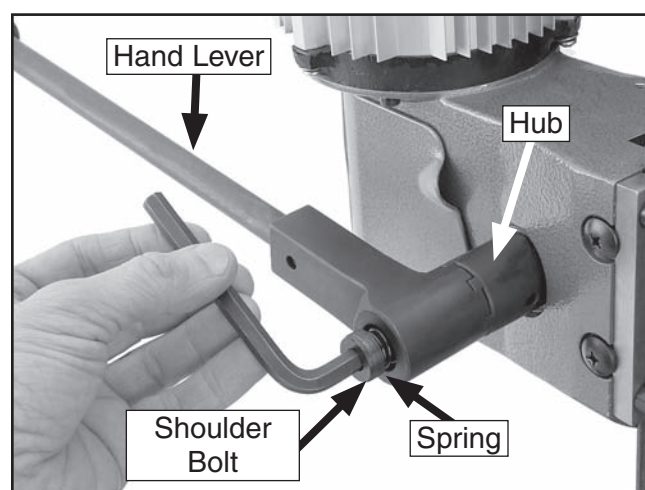

Figure 8. Hand lever installed.
1. Secure the handle onto the hub using the spring and shoulder bolt already attached to the headstock, as shown in **Figure 8**.